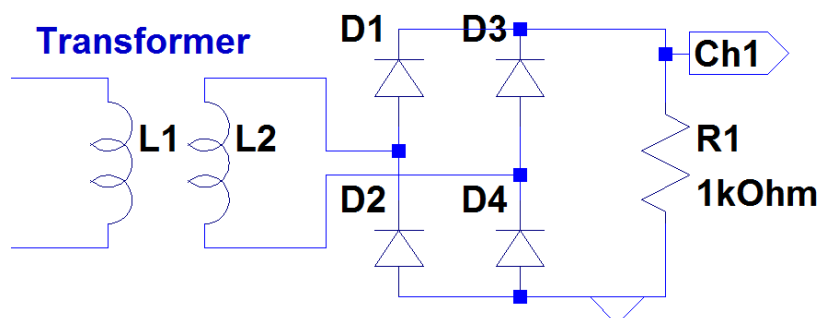

Figure 5.6 Full-wave bridge rectifier. This yields a higher output voltage than the center-tap full-wave bridge rectifier.
3. We can rectify the full secondary voltage with a bridge rectifier as shown in Fig. 5.6.